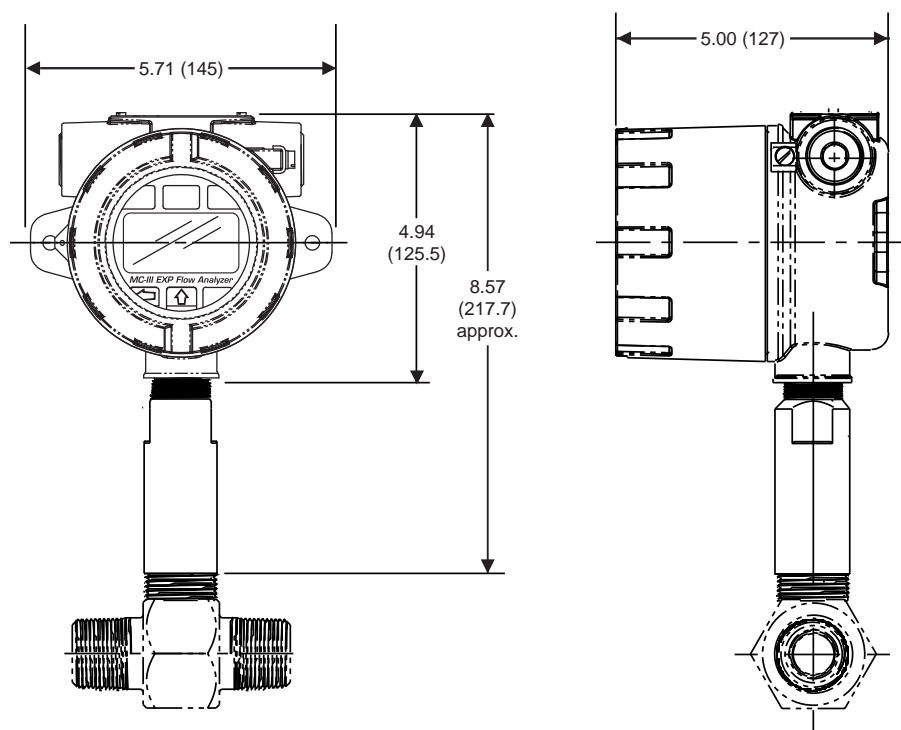

Figure 2.2—Direct mount to NuFlo turbine meter with 3/4-in. to 1-in. standoff tube (ATEX)
The ATEX-approved MC-III EXP may be mounted directly to a flowmeter, or mounted remotely on a pole and connected to a flowmeter with explosionproof signal cable. The type of meter mount required varies with the meter in use. See Figures 2.2 through 2.4 for installation dimensions.
- Mount the device to a NuFlo turbine meter. A 3/4-in. to 1-in. standoff tube is required (Figure 2.2, page 15).